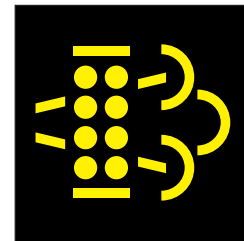

Figure 83. Regeneration Required Indicator
The **Regeneration Required indicator** (Figure 83) will appear on the ECU-845/670 controller, indicating that Force Regeneration is required. At this point, perform the Force (Manual) Regeneration by following these steps:
4. The regeneration process will start automatically, lasting for at least 30 minutes. The Exhaust Temperature High indicator (Figure 82) and Regeneration Required indicator (Figure 83) will appear on the ECU-845/670 controllers during the process and turn off when the regeneration process has been completed.